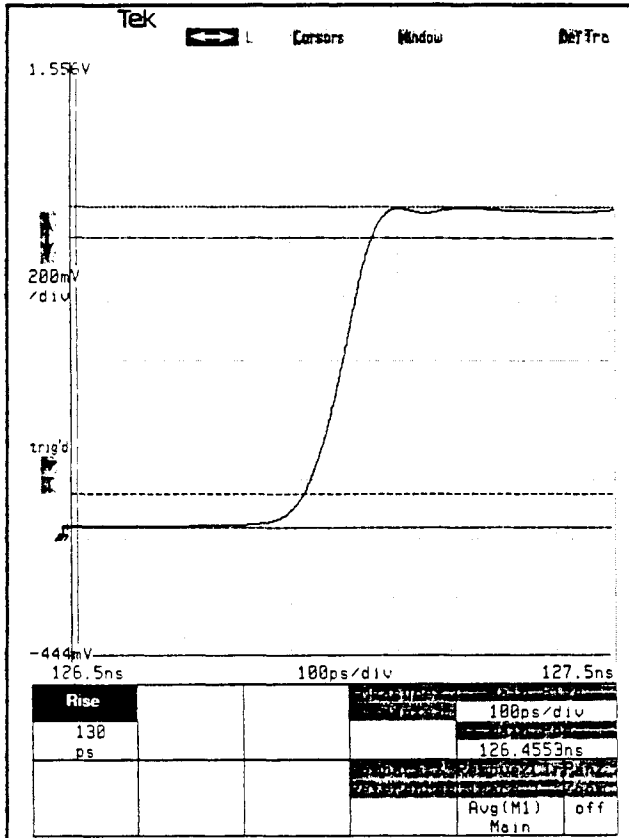

Fig. 4-1. Measurement of step 2 risetime.
- k. CHECK — that the risetime is less than or equal to 150 ps. Read the measured risetime below the Rise block on the 11801. See Fig. 4-1.